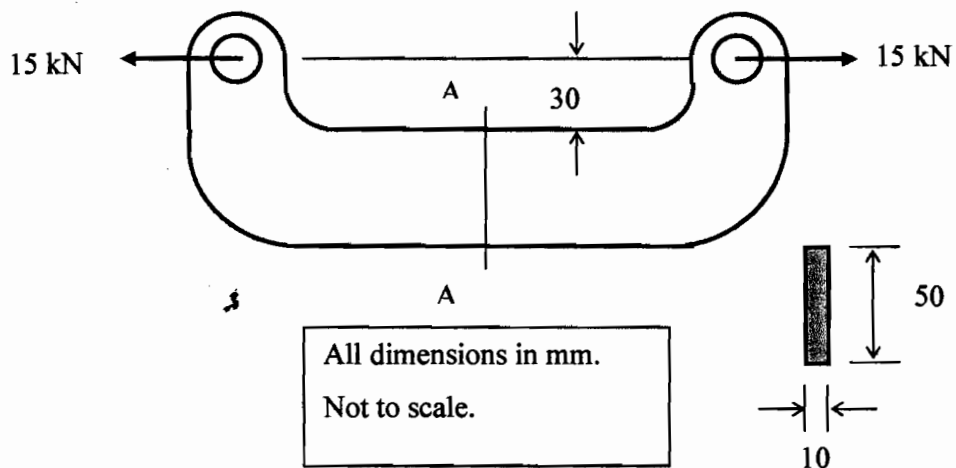

Figure Q1
- 1 (a) Assuming linear elastic behaviour, plot the stress distribution over cross section A-A of the offset link shown in Figure Q1 under the action of the 15 kN forces shown. (8 marks)